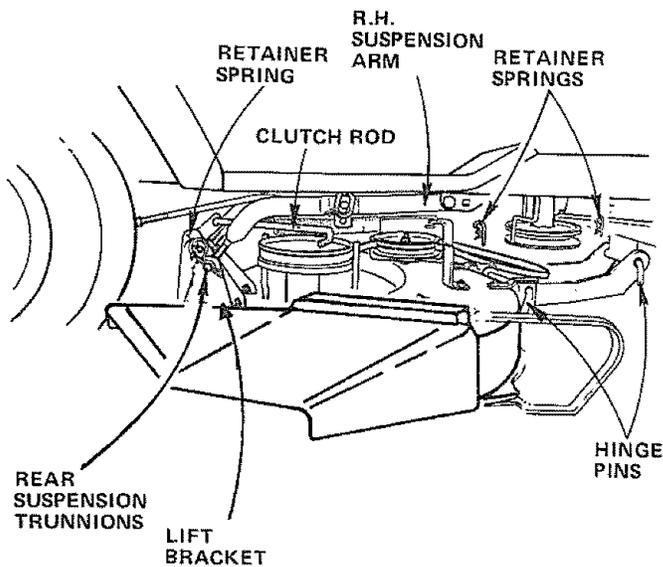

FIGURE 31
- Pull retainer springs out of rear suspension trunnions. Remove rear suspensions trunnions from lift brackets (Fig. 31).
- Pull retainer spring out of front hinge pin. Remove front hinge pin (Fig. 31).
NOTE: IF AN ATTACHMENT OTHER THAN THE MOWER DECK IS TO BE MOUNTED ON THE TRACTOR, THE L.H. AND R.H. SUSPENSION ARMS (FIG. 31) SHOULD BE REMOVED FROM TRACTOR.